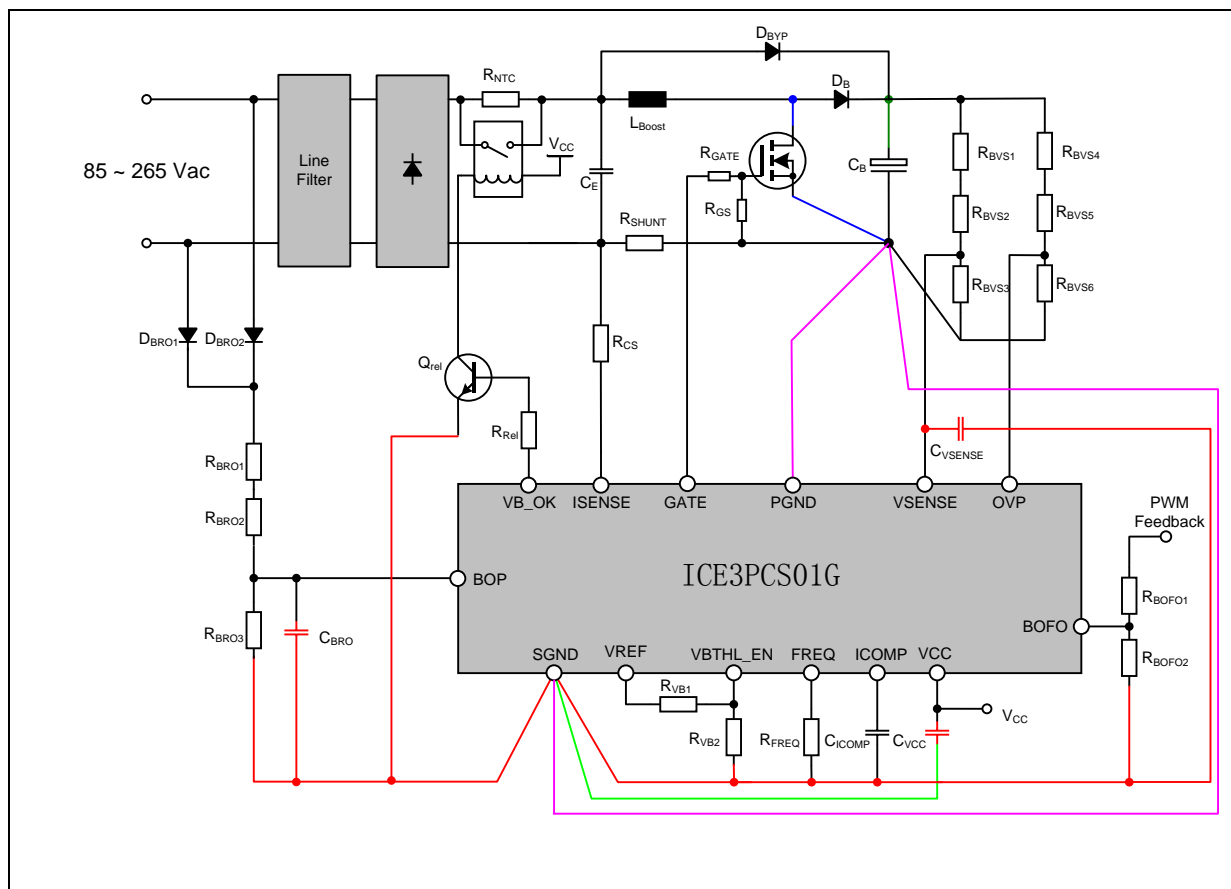

Figure 21 Good PCB layout illustration
In order to avoid crosstalk on the board between power and signal path, and to keep the IC GND pin as “clean” from noise as possible, the PCB layout for GND must be taken care of properly. Below are some suggestions for GND connections and together with Figure 21 below illustrates as a good example.
- (1) Star connection rules for main power stage GND: the PCB tracks of MOSFET source, output load PGND, SGND, IC auxiliary supply GND and shunt resistor are separated and connected together at bulk capacitor negative Pin.
- (2) Star connection rules for SGND: the IC external components which need to be connected to the SGND bus highlighted in red color. Such SGND bus is connected to IC SGND pin.
- (3) Connection between main power stage GND and IC GND: in Figure 21, the single PCB track in pink color directly connects IC GND pins to power stage star connection point - bulk capacitor negative. This is to ensure that the voltage between ISENSE pin and SGND pin does not observe the switching rectangular noise current. The dark green and blue tracks denote for flowing paths of high frequency rectangular switching current.
- (4) VCC decoupling capacitor C_{VCC} : the decoupling capacitor need to be placed close to IC VCC and GND pins as much as possible. The GND track of C_{VCC} (green color in Figure 21) should be connected at the point on the single PCB track connecting between IC SGND pin and PGND point so that the large gate charging current will not pass through the SGND bus.
- (5) VSENSE capacitor C_{VSENSE} : to reduce noise in VSENSE pin, small capacitor up to 0.01 μ F can be added between VSENSE pin and SGND bus.